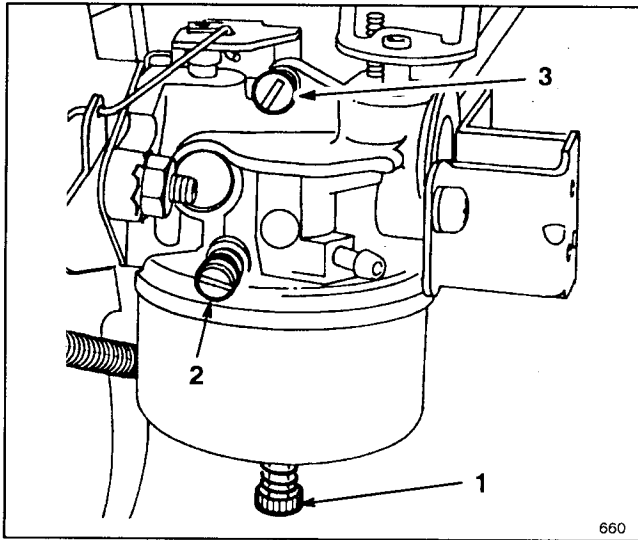

Figure 29
2. Power Adjusting Screw (Fig. 29)—Close screw by gently rotating it clockwise until a slight seating resistance is felt. Next, rotate power adjusting screw one full turn—360°—counterclockwise.
3. Idle Mixture Screw (Fig. 29)—Close screw by gently rotating it clockwise until a slight seating resistance is felt. Next, rotate idle mixture screw 1–1/2 full turns counterclockwise.
5. Rotate power adjusting screw (Fig. 29) clockwise—in—1/8 turn at a time until engine misses because of a lean gasoline mixture. Then rotate screw counterclockwise—out—1/8 turn at time until engine runs unevenly because of a rich gasoline mixture. Next, rotate power adjusting screw clockwise, back to the midpoint between the rich and lean settings, so engine runs smoothly.
7. Rotate idle mixture screw (Fig. 29) clockwise—in—1/8 turn at a time until engine begins to miss because of a lean mixture. Then rotate screw counterclockwise—out—1/8 turn at a time until engine runs unevenly because of rich mixture. Next, rotate idle mixture screw clockwise, back to the mid—point between rich and lean settings.
8. Again, rotate idle speed screw (Fig. 29) until engine idles at 1750 rpm.